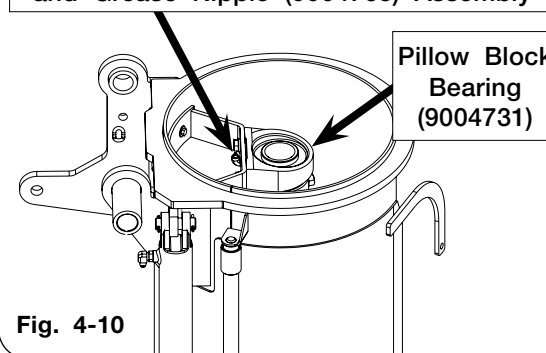

Fig. 4-10
9. Lower the upper auger assembly, turn off tractor and remove key. Slowly turn lower auger by hand while applying grease to the hanger bearing. Torque hanger bearing hardware. Grease until the grease purges out and around the drive dog housing. Apply a light coat of surface grease to drive dog conical shaft. Wipe off excess purged grease from hanger bearing top seal area. (FIG. 4-10)
10. Lower the upper auger assembly, turn off tractor and remove key. Slowly turn lower auger by hand while applying grease to the hanger bearing. Torque hanger bearing hardware. Grease until the grease purges out and around the drive dog housing. Apply a light coat of surface grease to drive dog conical shaft. Wipe off excess purged grease from hanger bearing top seal area. (FIG. 4-10)